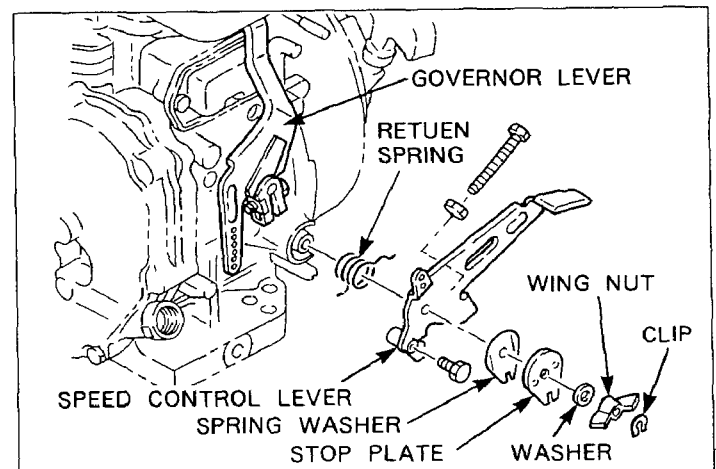

Fig. 58
- (2) Install speed control lever to crankcase with return spring, friction washer, wing nut, etc. as shown in Fig. 58.
- (3) Hook governor spring to proper holes of governor lever and speed control lever.